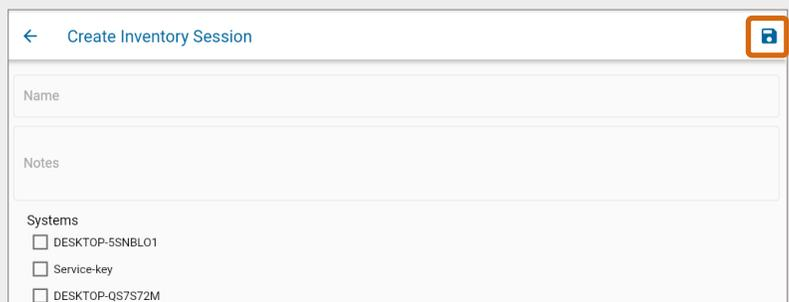

Fig. 95 – Create Inventory Scan screen
5. Select **Save**  to save the session, shown in Fig. 95.